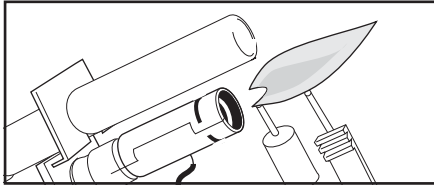

Fig. 26 Pilot flame is lifting.
4. Pilot flame does not touch the Thermocouple. (Figs. 26, 27)